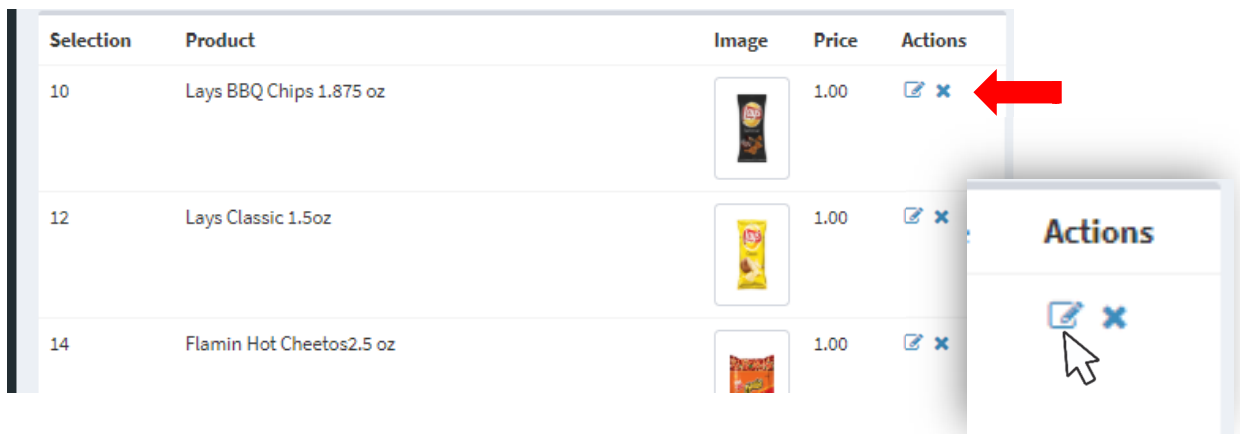

Figure 43
- To edit the details of an item click the **edit icon** under the Actions column of the product (*figure 43*).